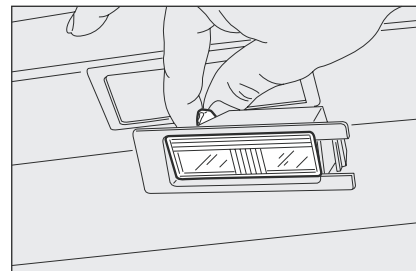

fig. 20
- change the bulb **fig. 20** releasing it from the side contacts and making sure the new bulb is correctly fastened between the contacts;